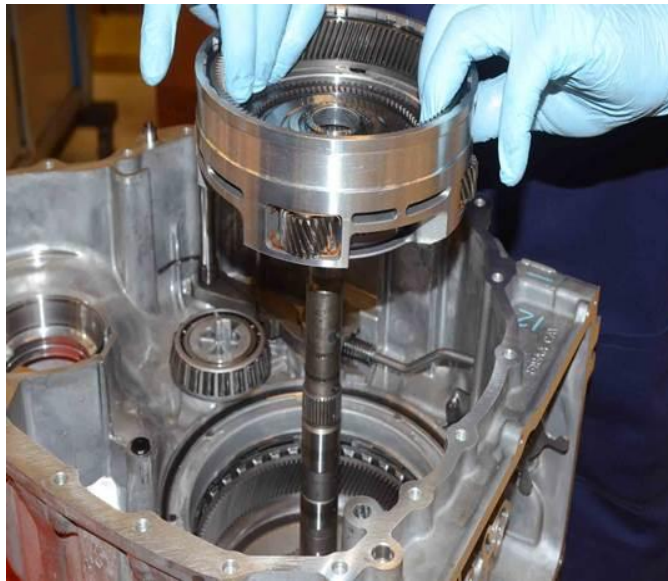

Fig. 14 Gear 3 Annulus Gear Assembly
46. Install the Gear 3 Annulus and Carrier Gear assembly. See (Fig. 14).